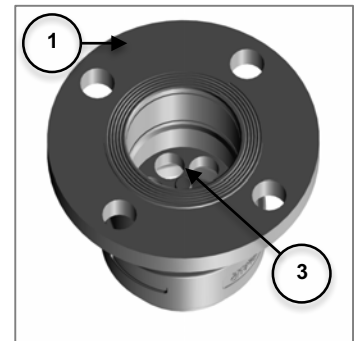

Figure 4-42 Fasten Adjustment Nut
4.4.3.4 Install adjustment nut (item 3) by threading the adjustment nut inside the body (item 1) groove facing downward.
NOTICE: Groove side of the adjustment nut (item 3) goes face down toward the spring; it keeps the spring centered during installment (see Figure 4-42).